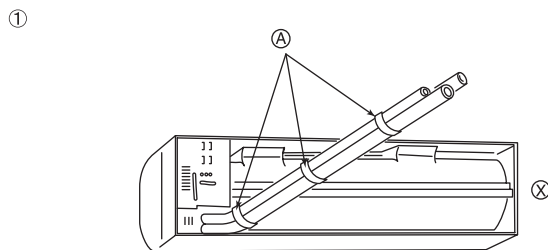

Fig. 3-4
① Fasten a thread to the hole.
② The level can be easily obtained by hanging a weight from the string and aligning the string with the mark.
① Rear, right and lower piping (Fig. 3-4)